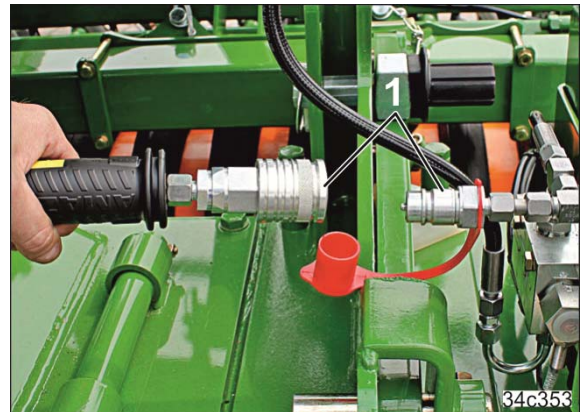

Fig. 134
27. Connect the hydraulic lines (Fig. 134/1) (when attaching the track marker onto the soil tillage implement).